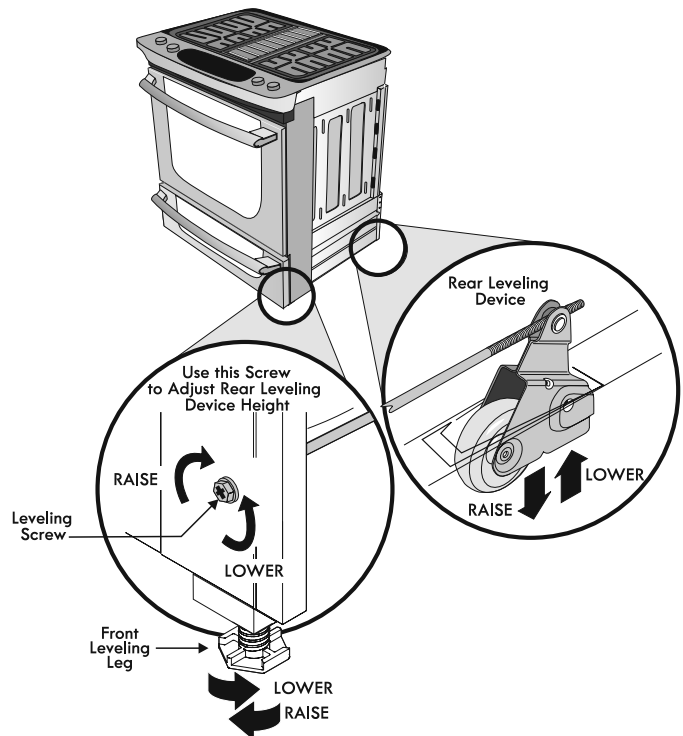

Figure 13
2. Adjust the appliance legs as follows until the underside of the cooktop (or cooktop glass) surface is sitting level on the countertop (Figure 13).